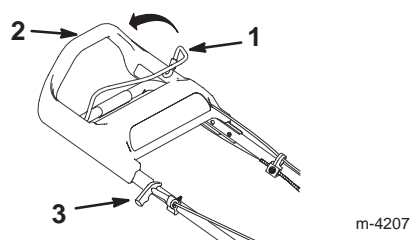

Figure 12
3. Hold the blade control bail against the upper handle (Fig. 12).